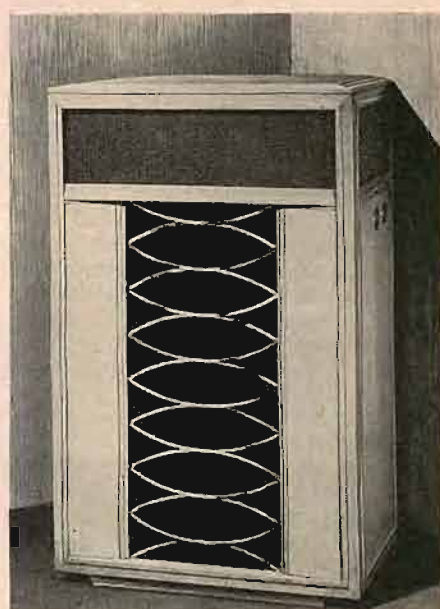
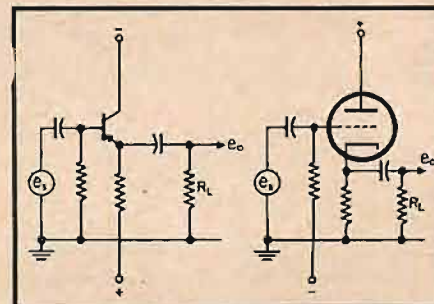
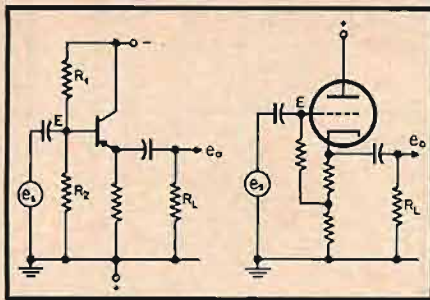

Fig. 2. The Laboratory Standard speaker in furniture-type styling suitable for the home.
Fig. 2. The grounded-collector transistor circuit.
Fig. 3. Grounded-collector circuit can be self-biased in somewhat the same manner as a cathode-follower tube.
In general, distortion in a woofer rises as the frequency is lowered, because of the greater cone movement as frequency decreases. Figure 3 shows an unretouched photograph of an oscilloscope tracing of the output of the "furniture" model of the speaker, PR-100 (shown in Fig. 2), at low frequencies at high power levels. These powers are considerably more than to be expected in ordinary use. The close conformance to the original sine wave pattern shows negligible distortion at frequencies and powers commonly expected to give considerable harmonics instead of pure tones. In a typical medium or large listening room, 50 milliwatts (1/20 watt) average power as indicated by a VU meter gives sufficient power to this speaker system to provide louder than normal listening level. At this average power, assuming 20 db increase for peaks to be expected in orchestra music, 5 watt peaks will drive the speaker system. This means that speaker distortion will be so small as to be negligible and probably not even detectable. Extensive listening tests have not shown up any instances of recognizable distortion at these low frequencies.
Fig. 3. Unretouched oscillograph photos showing sine-wave response at various outputs and frequencies: (A) 35 cps at 16 watts; (B) 40 cps at 16 watts; (C) 40 cps at 30 watts; (D) 60 cps at 30 watts.
**Grounded-Collector.** In Fig. 2 we have the grounded-collector circuit, which resembles the vacuum-tube cathode-follower. The voltage gain is less than 1, but can be made as high as 0.95, a loss of less than 1 db. Power gains as high as 20 db have been recorded. There is no polarity reversal and external stabilization with bleeders may be necessary. The most interesting feature of the grounded-collector circuit is the relatively high input impedance which, although it can be as high as 1 megohm, depends on the load resistor  $R_L$ . Low values of  $R_L$  will bring the input impedance down. The output impedance can be made as low as 100 ohms. The techniques of self-bias can be employed as successfully as in vacuum-tube circuits. Figure 3 shows a common method of self-biasing.  $E$  is the bias obtained from voltage divider  $R_1$ - $R_2$ .
Taking the foregoing into consideration, it should be therefore possible to design a phonograph preamplifier which will compare favorably with its electronic counterpart. From Figs. 3 and 5 it is seen that a combination of a grounded collector and a grounded emitter in a direct-coupled circuit is possible, provided that the appropriate bias levels are supplied. Direct coupling eliminates the need for a large interstage coupling capacitor, and also provides a relatively high input impedance. Peter Sulzer was first to apply this.2 Although this type of circuitry needs two transistors, one of which supplies no gain, the definite advantages seem to outnumber the cost of the extra transistor, especially with the elimination of a large-value capacitor and the likelihood of employing an input transformer.